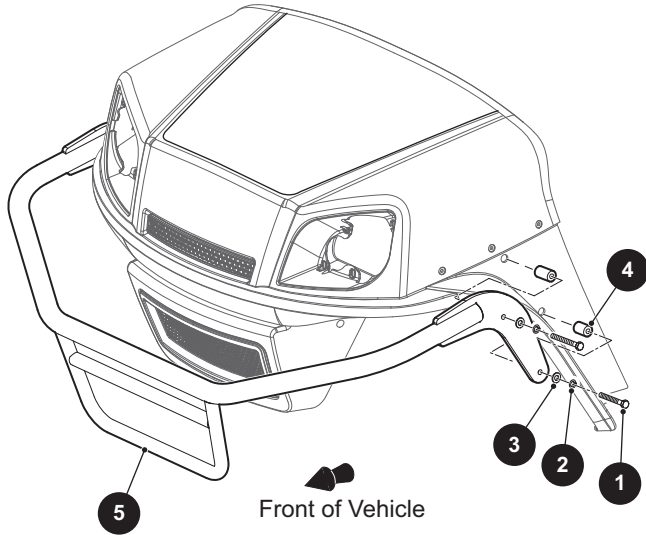

Figure 7 Brush Guard
1. Remove four bolts (1), lock washers (2), flat washers (3) and spacers (4) (two from each side) that secure the brush guard (5) to the fenders. Retain the hardware for reuse (Figure 7).
3. Assemble in reverse order of removal with longer bolts and spacers in the top mounting holes. Tighten bolts (1) to torque value specified below.